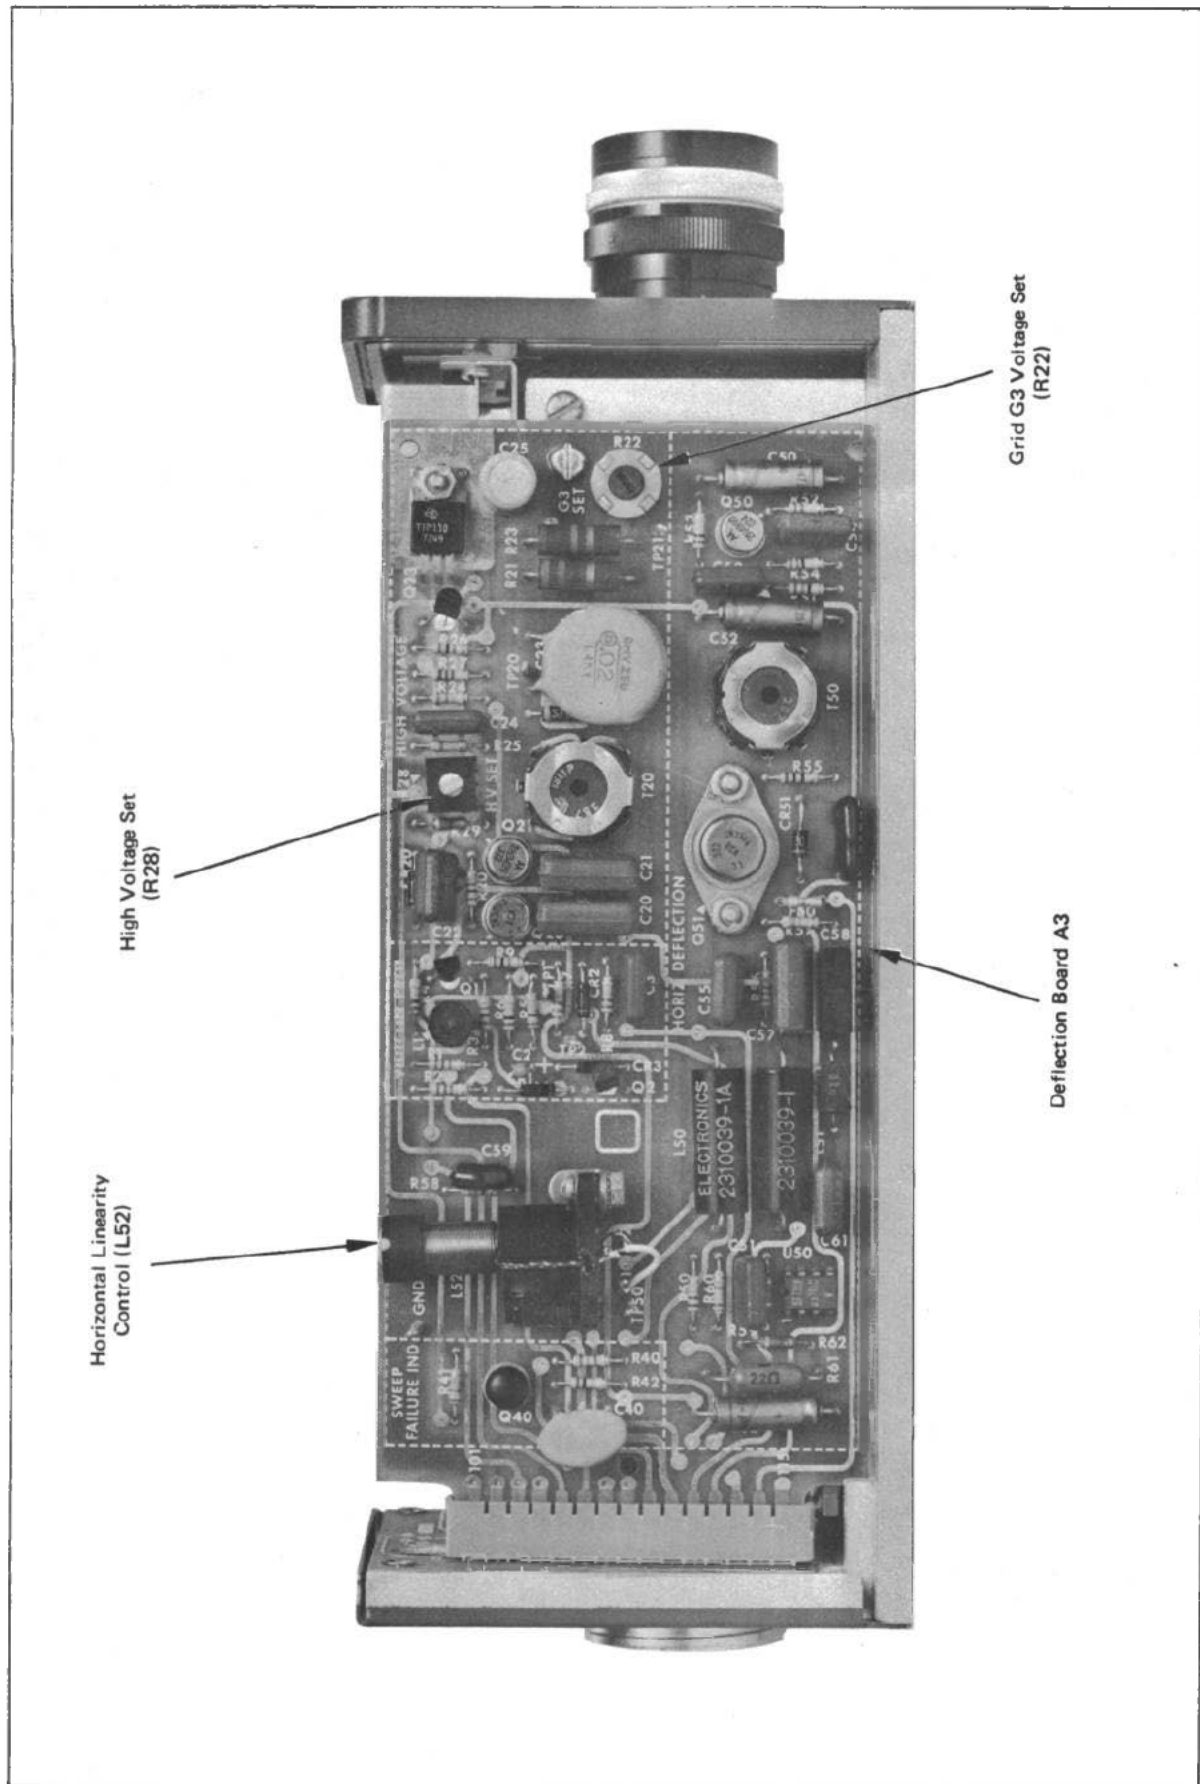
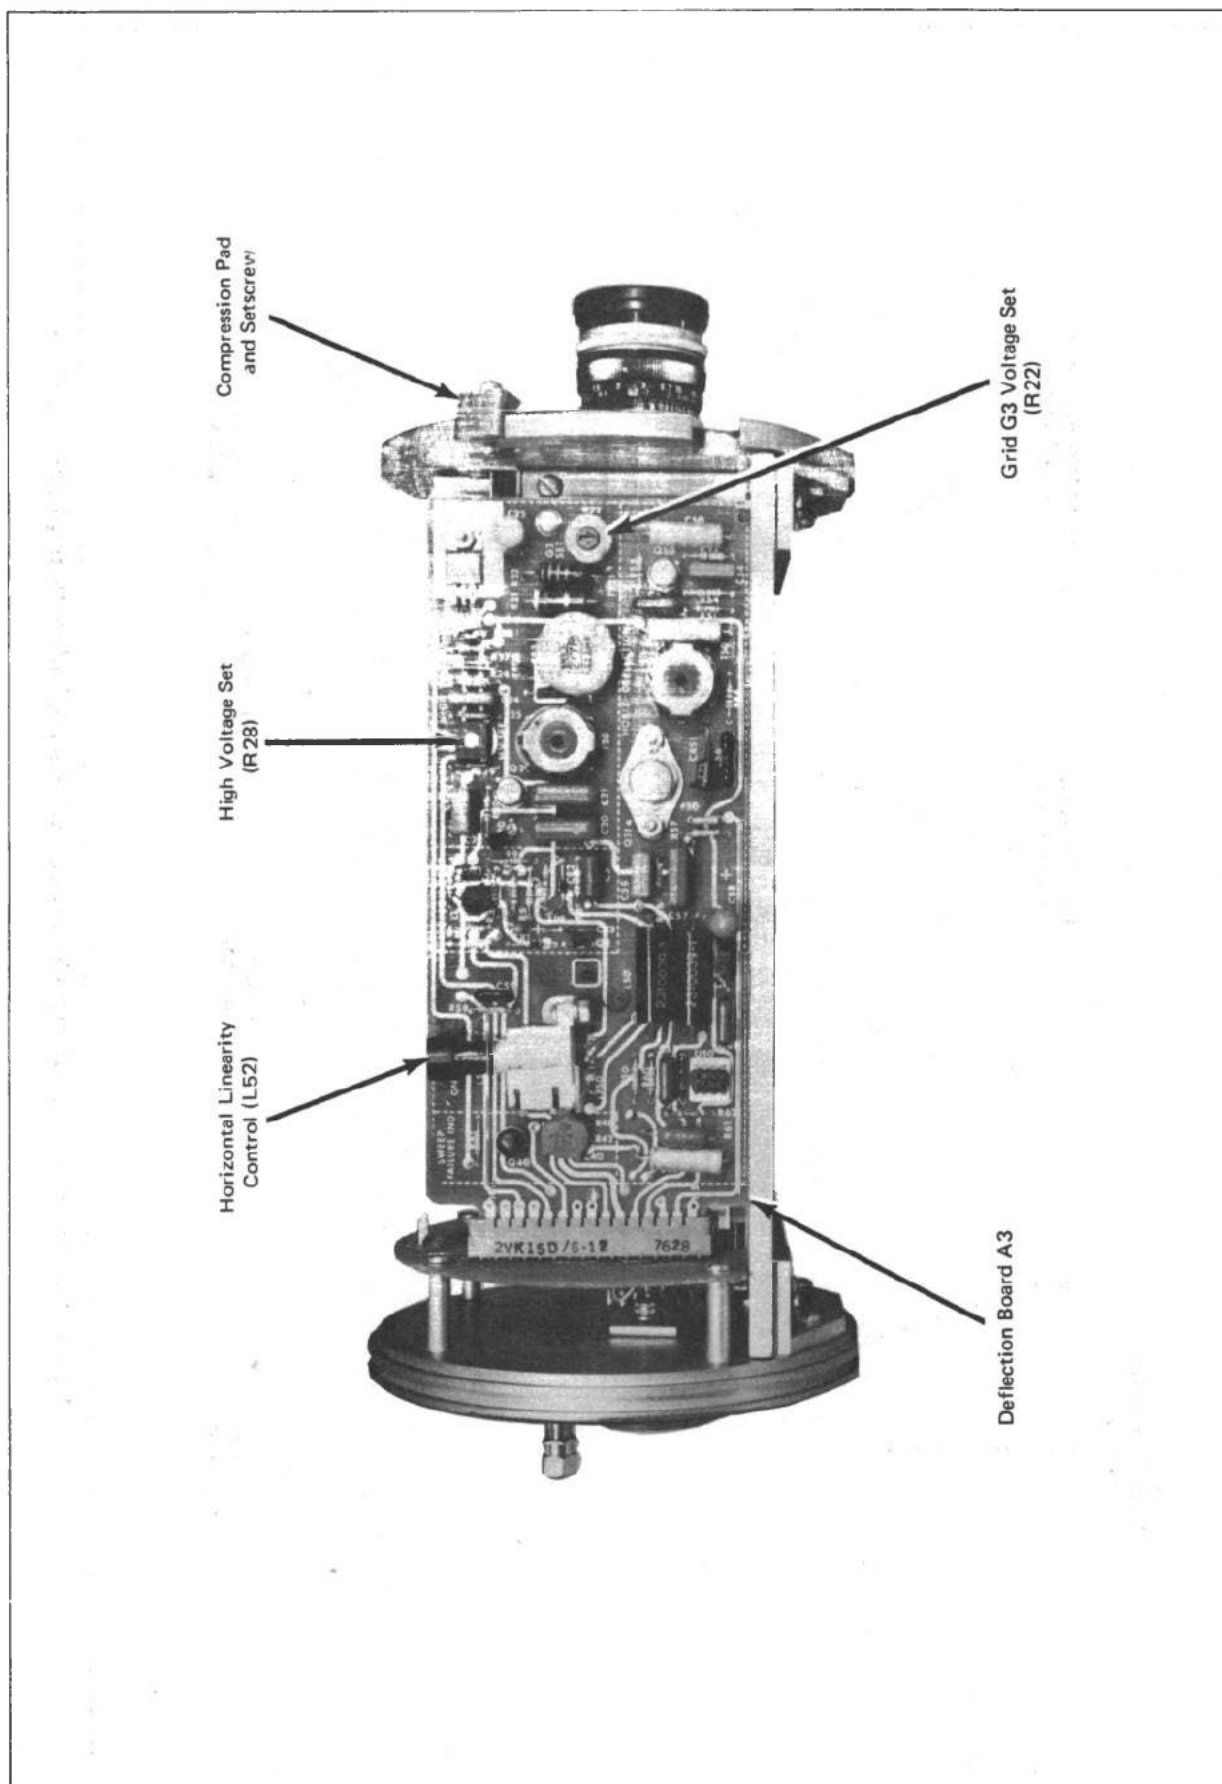

Figure 2-1. Interior View of 7120 Series Camera Facing Deflection Board A3
Figure 2-4. Interior View of 7210B Series Camera Facing Deflection Board A3.
The active components in the camera, for the most part are installed on three printed circuit boards labeled video preamplifier, deflection, and filter (see Figure 2-1 through 2-3 for Model 7120 and Figure 2-4 through 2-6 for Model 7210B). Each of these printed circuit boards is bolted to the camera chassis with two or more screws, the removal of which makes it possible to reposition the board so repair or replacement of components can be done without completely removing the board from the chassis. Special care must be taken, however, to avoid damaging wires to other points in the camera. These particular wires must be unsoldered and disconnected if the board is to be removed completely from the camera.
To make test points, internal adjustable controls and all other components inside the camera (Figure 2-1 thru 2-3) accessible for servicing:
The active circuit components in 7210B series cameras are located on a metal framework chassis (Figure 2-4 thru 2-6) that slides out of the cylindrical camera housing from the back of the camera. Most of these active components are installed on three printed circuit boards which are secured to the metal chassis with machine screws. Prior to shipment from the factory, the interior of the cameras are pressurized with five to ten pounds of dry nitrogen. The nitrogen should be released through the purge valve on the back end of the camera before removing the chassis from the housing. To remove the chassis from the camera housing:
- c. Using hex wrench through opening at front of camera, loosen compression pad or pads setscrew located at the top edge of front vertical support for camera chassis (refer to Figure 2-4).
- d. At deflection board in camera (Figure 2-1) measure the dc voltage at TP20 and adjust to $+7000 \text{ volts} \pm 5\%$ with R28. At the same subassembly measure the dc voltage at TP21 and set at $+700 \pm 5\%$ with R22; then set FOCUS control at 7900 Series Camera Control front panel to the center of its range.